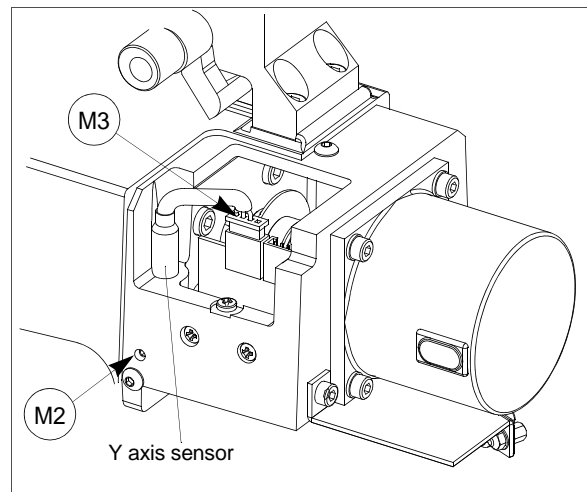

Fig. 58
- 5) disconnect the (M3) sensor's connector (fig. 58).